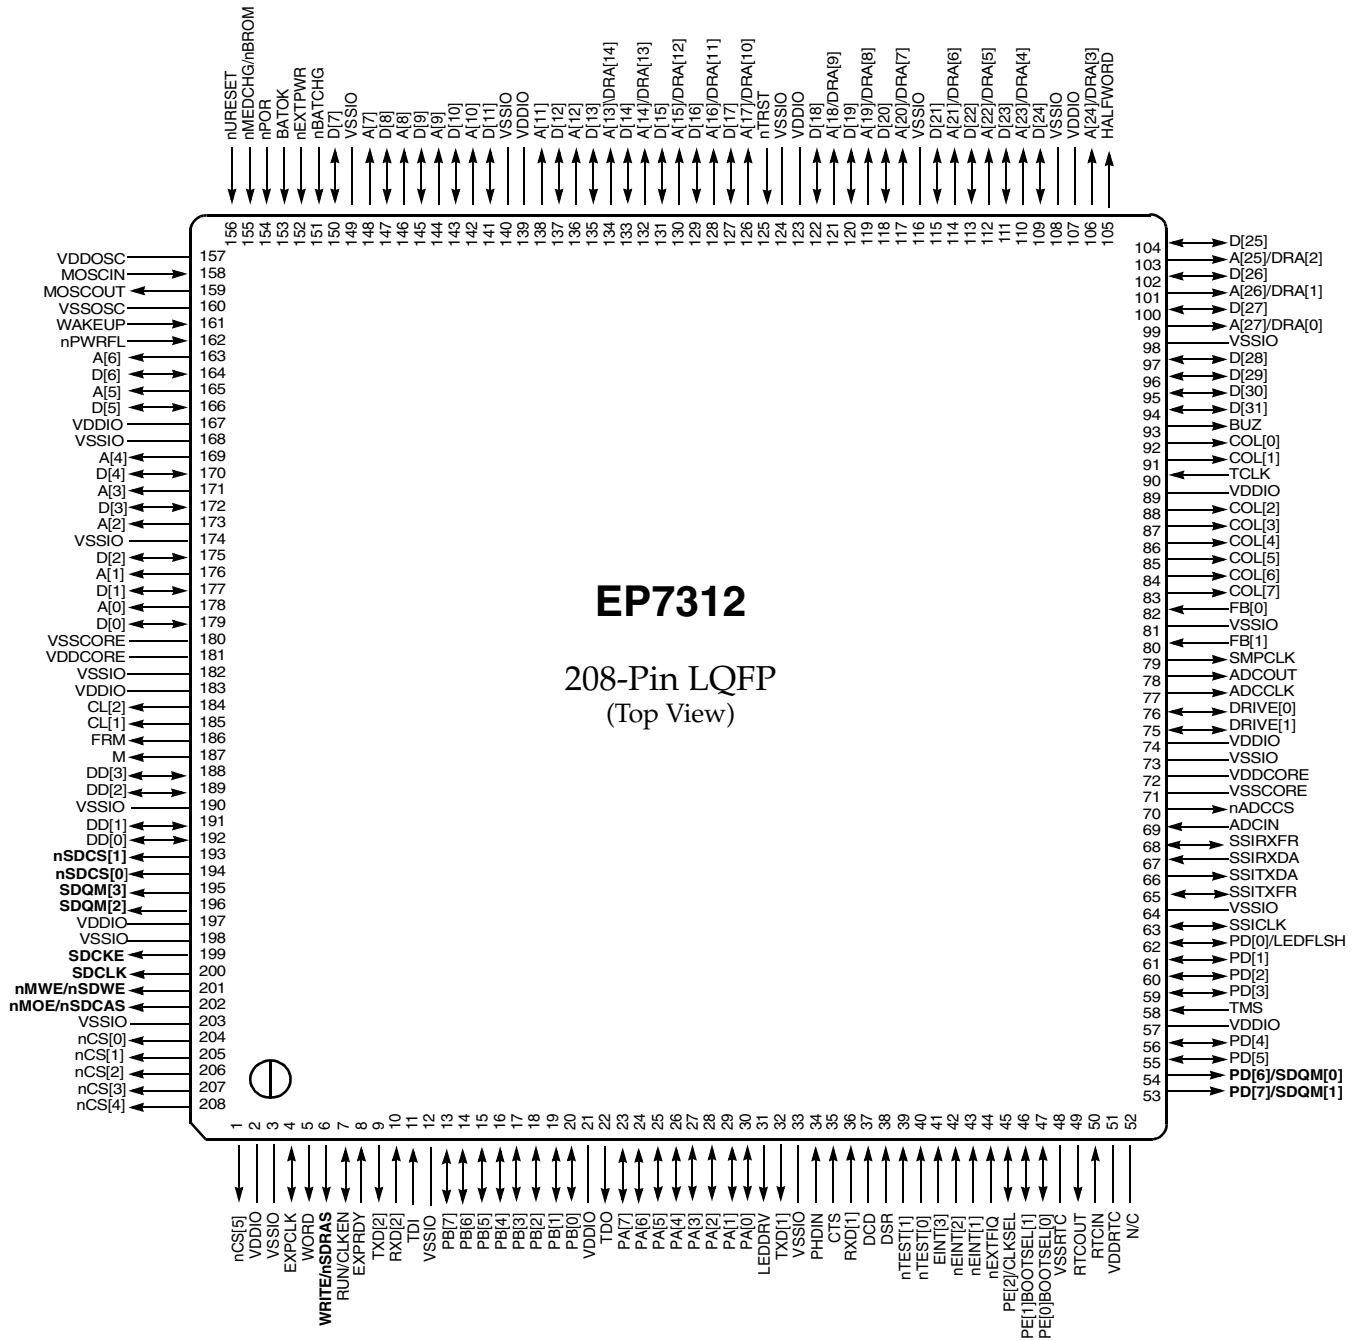

Figure 15. 208-Pin LQFP (Low Profile Quad Flat Pack) Pin Diagram
- 4) For pin locations, please see Figure 15. For pin descriptions see the EP7312 User's Manual.